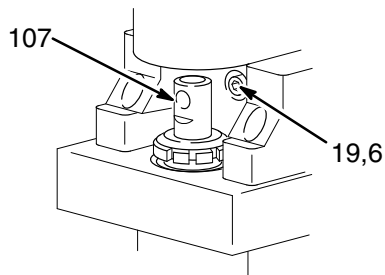

Fig. 23
2. Remove the pressure control (64). See page 26.
3. Turn the displacement pump rod (107) so the pin hole aligns with the bottom drive housing screw (19). See Fig. 23. Remove the three drive housing screws and lockwashers (19,6). Also see Fig. 24 on page 25.